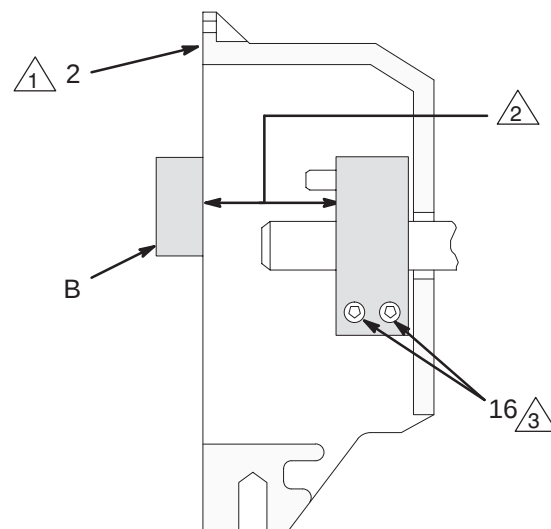

Fig. 17
3. Press the **clamp (3)** onto the engine shaft (A). Maintain the 1.99 ± 0.01 in. (50.55 ± 0.25 mm) dimension shown in Fig. 17.